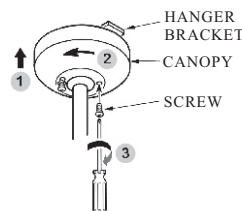

FIG. 14
4. Mount the canopy on the hanger bracket and tighten the screws. (See fig.14)